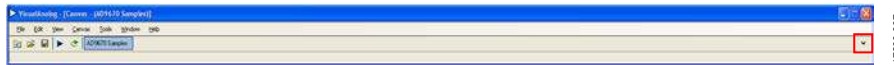
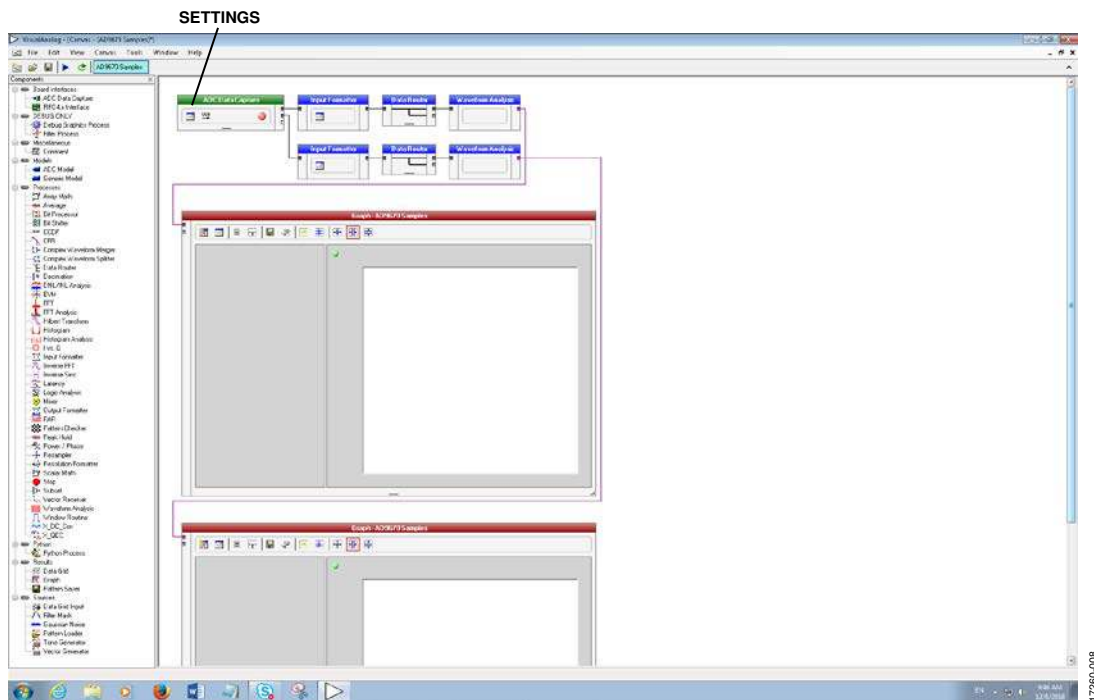
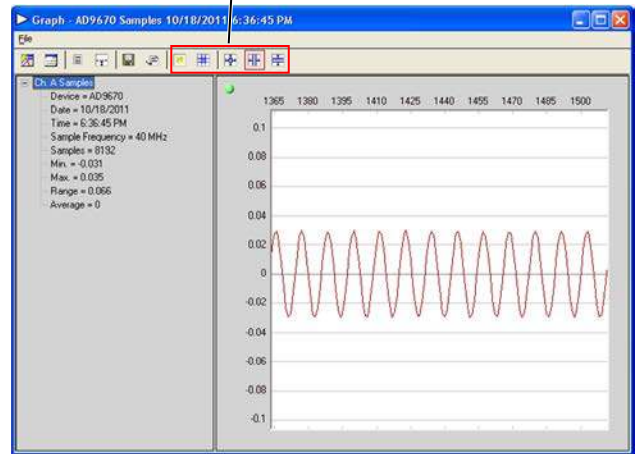

Figure 7. *VisualAnalog* in Window Collapse Mode
Figure 8. *VisualAnalog* Sample Canvas
Figure 10. Data Capture Window
9. If the **VisualAnalog** software opens and only shows the task bar, as shown in Figure 7, click the down arrow on the right side of the window to expand the **AD9670 Samples** canvas (shown in Figure 8) to see the signal processing flow.
10. Next, load the FPGA binary file into the hardware. To load the file, click the **Settings** button in the **ADC Data Capture** block (see Figure 8).
- The **AD9670** is now running and fully configured for data capture mode. The **VisualAnalog** software offers two data capture modes: onetime and infinite loop. Click the blue right arrow (see Figure 7 or Figure 8) to run the canvas in onetime mode and click the green repeat button (see Figure 7 or Figure 8) to run the canvas in infinite loop mode. The **Samples** canvas then opens two windows showing 8192 time domain samples for Channel A and Channel B (see Figure 10 for the Channel A window).